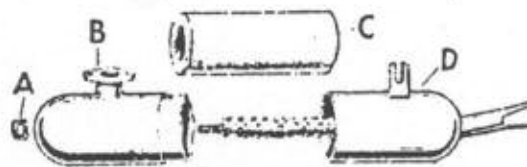

Fig W6A.
The sound absorption pack (C), Fig. W6A, will eventually become choked, and should be replaced by a new one at intervals of about 5,000 miles. To replace this pack, remove silencer, then take off nut A, Fig. W6A ; this allows the rear end of the silencer body (D) to be separated from the front end (B), when the old absorption material can be pulled out.